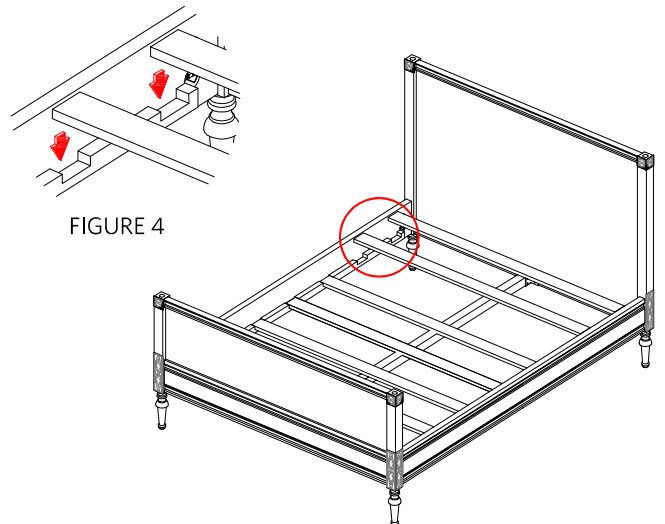

FIGURE 4
7. Set the bed slats (D) on the slat holders of the side rails (B). See FIGURE 4.